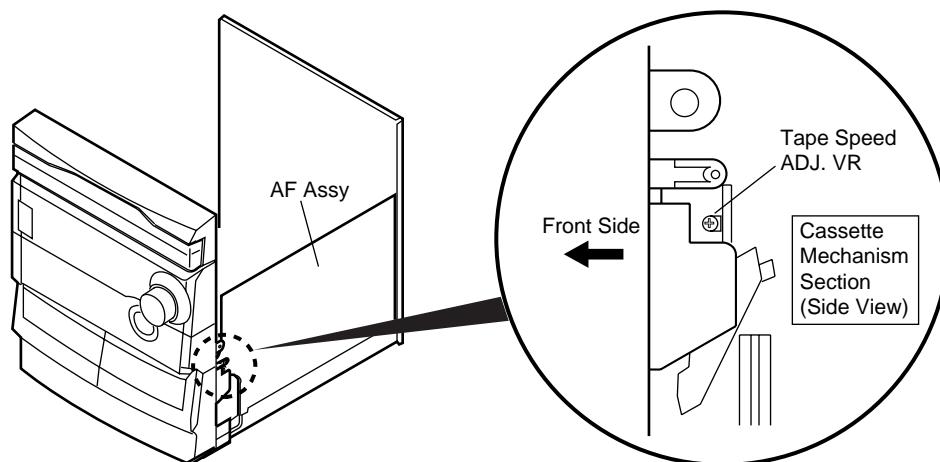
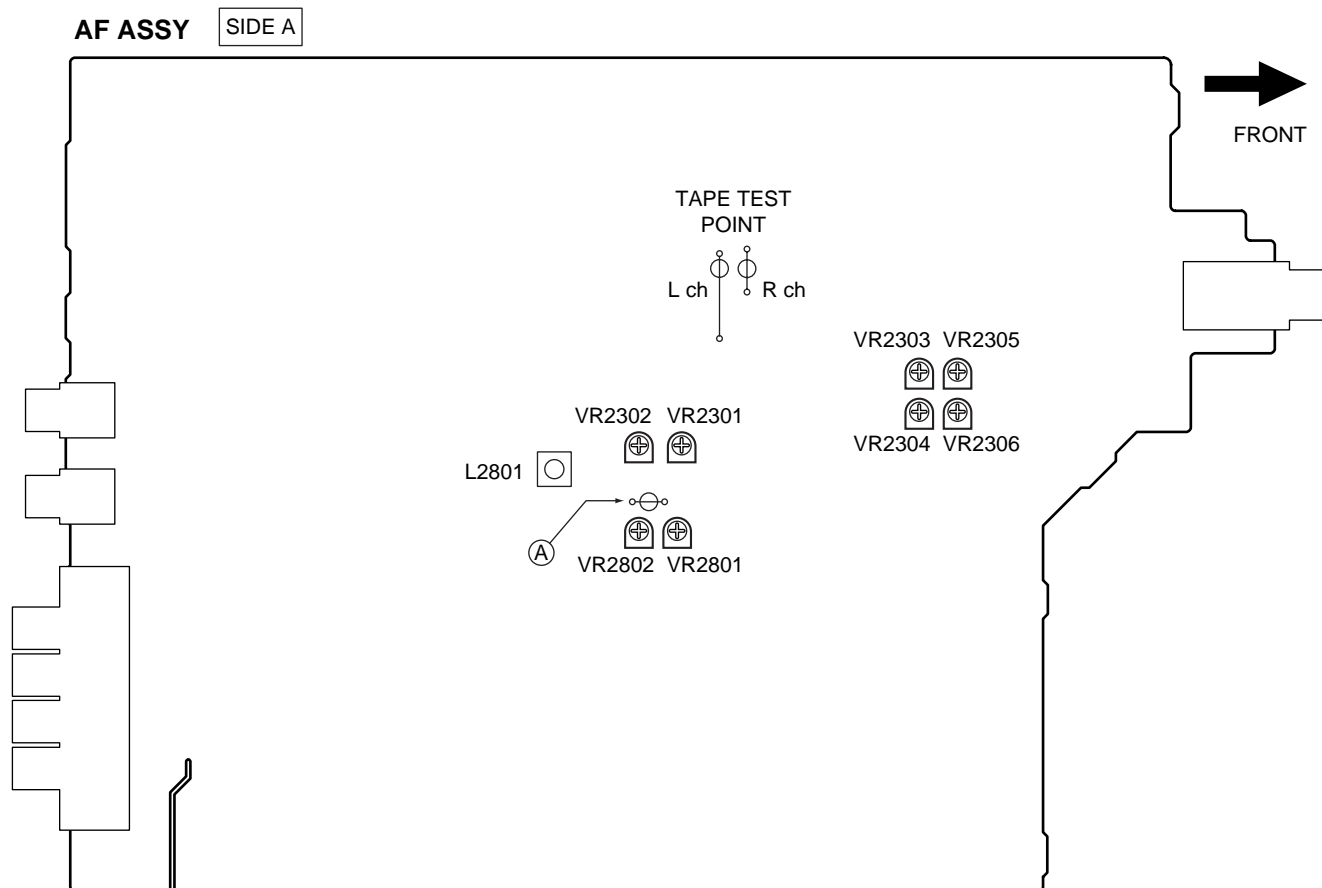

Fig.3 Tape Speed ADJ. Point
Fig.7 Adjustment and Measurement Points
• Adjustment points and test points are shown in Fig.3, Fig.5 and Fig.7.
| 1   | Deck IPLAY | NCT-111(Playback : 3kHz) | ADJ. VR onCASSETTEMECHA (Fig. 3) | TAPE TESTPOINT (Rch)(AF Assy) | Press the PLAY SW and adjust so that the reading becomes $3000\text{Hz} \pm 20\text{Hz}$ . Confirm that wow & flutter level is below 0.3% (in the reverse direction, confirm that the reading is within $3000\text{Hz} \pm 60\text{Hz}$ ). |         |
| 1    | REC  | Load the STD-632 test tape and set the recording mode. | Deck II          | _____           | Between (A) point Fig. 7 and GND | Oscillation frequency to be 105.0kHz ± 2kHz. | If the REC/STOP button for four seconds while the power is in STANDBY mode, the frequency will decrease 2 to 3 kHz. |